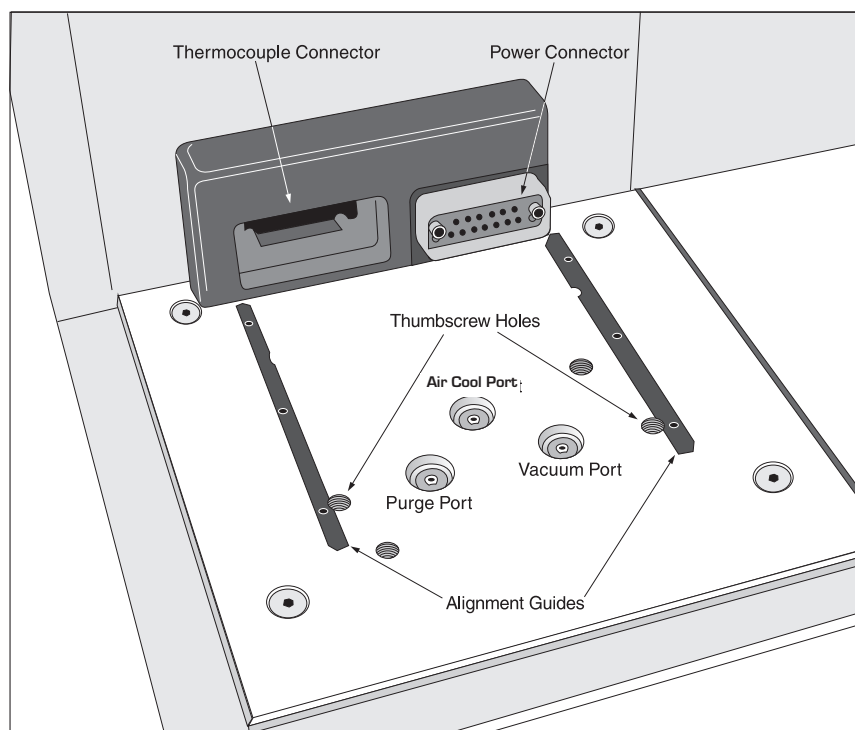

Figure 2.10
2. Locate the alignment guides on the instrument base as shown in Figure 2.10 below.